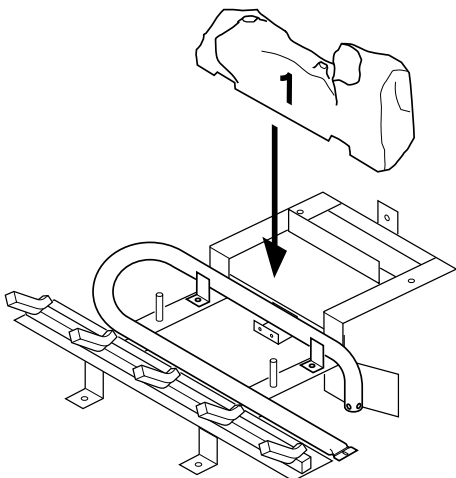

Figure 43 - Installing Log No. 1
2. Place log #1 (back log) on top of grate. Make sure the notches in the bottom of the log fit over the grate (see Figure 43).